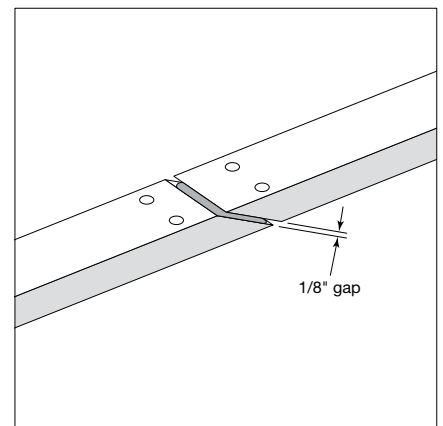

Fig. 2
- Create a 1/8" expansion joint for runs over 18' (Fig. 2).